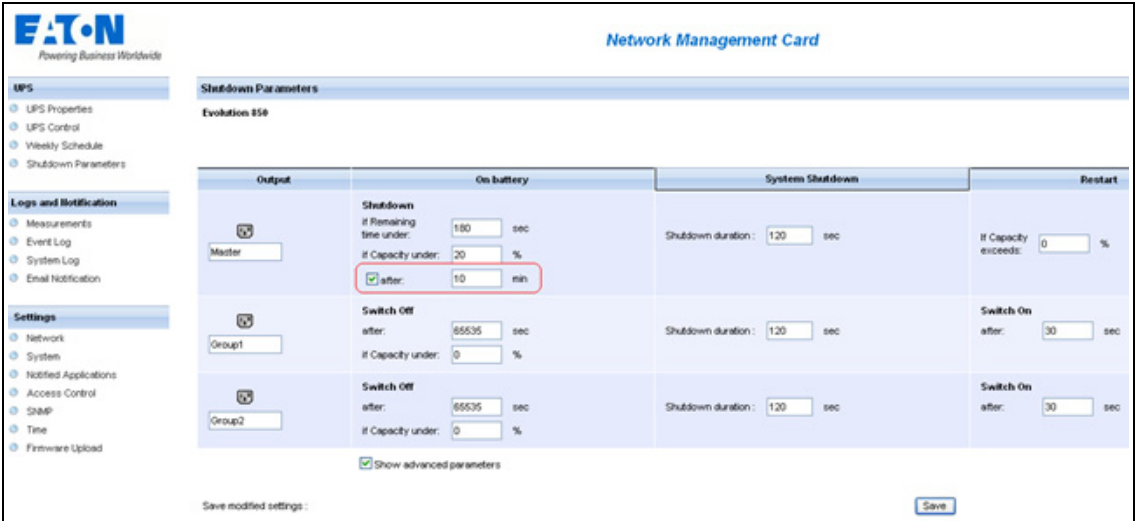

Figure 65. network management card Shutdown Parameters
- The network management card Shutdown default configuration is available from **UPS > Shutdown Parameters** (see Figure 65).